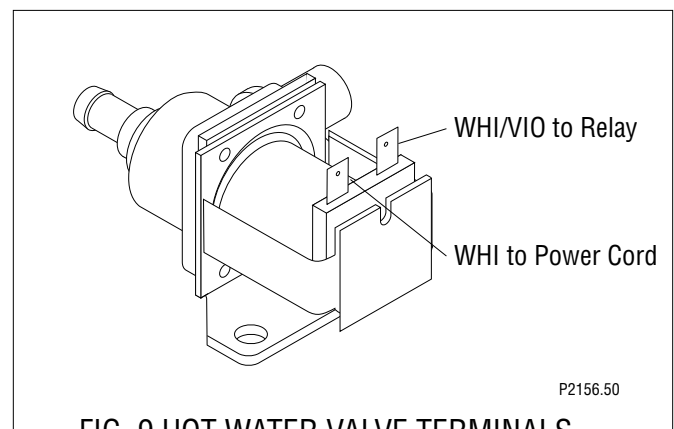

FIG. 9 HOT WATER VALVE TERMINALS
11. Refer to Fig. 9 when reconnecting white/violet wire to the hot water solenoid valve.
7. Refer to Fig. 9 when reconnecting the wires.